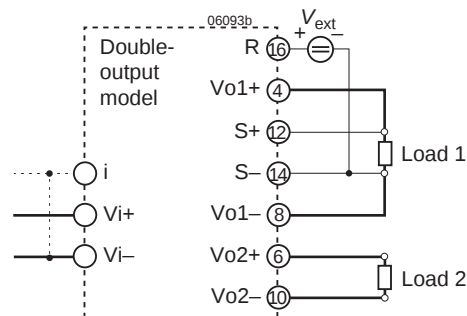

Fig. 20
a) Adjustment by means of an external control voltage V_{ext} between R (pin 16) and S– (pin 14), see fig. 20.